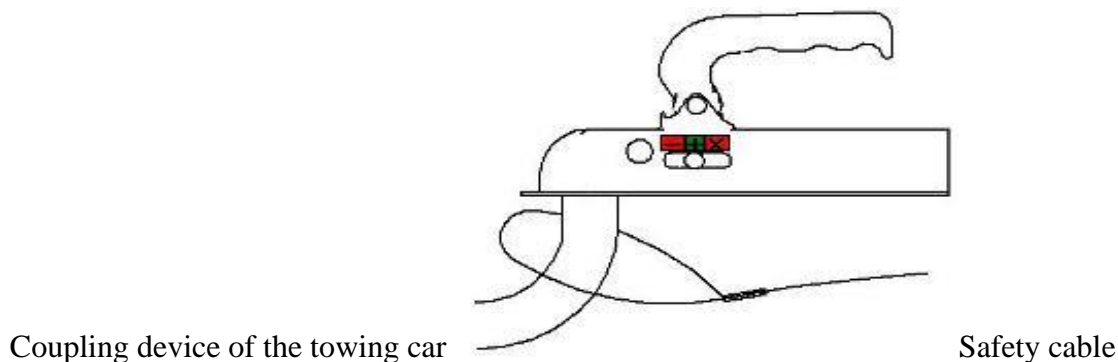

Figure 1: locked coupling device.
Attach the safety cable of the mobile trailer to the coupling hook of the towing vehicle and check its condition. Lift the coupling device of the trailer onto the ball mount of the towing vehicle and push it down until the coupling device locks into place with an audible click. When lifting, consider the weight of the trailer to avoid any potential injuries. The green status indicator on the coupling device of the mobile trailer indicates that the trailer coupling is firmly locked (+ position shown in Figure 1).
**ATTENTION:** If the trailer coupling device does not lock in the position shown in Figure 1, determine the cause and do not start driving; it is prohibited! The explanations for coupling device status indicators are shown in Section 2.1.
- the condition of the coupling device (see Figure 1 and Section 2.1). It is important to ensure that the height of the towing hook of the towing vehicle is within range of  $430 \pm 35$  mm according to standard DIN 74058;